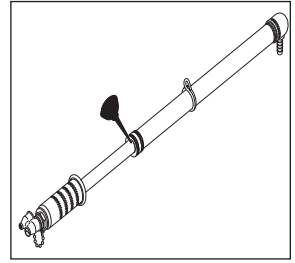

Figure 7.
2. Apply a few drops of light oil or grease at the gland nut to ease the pump operation. **See Figure 7.**